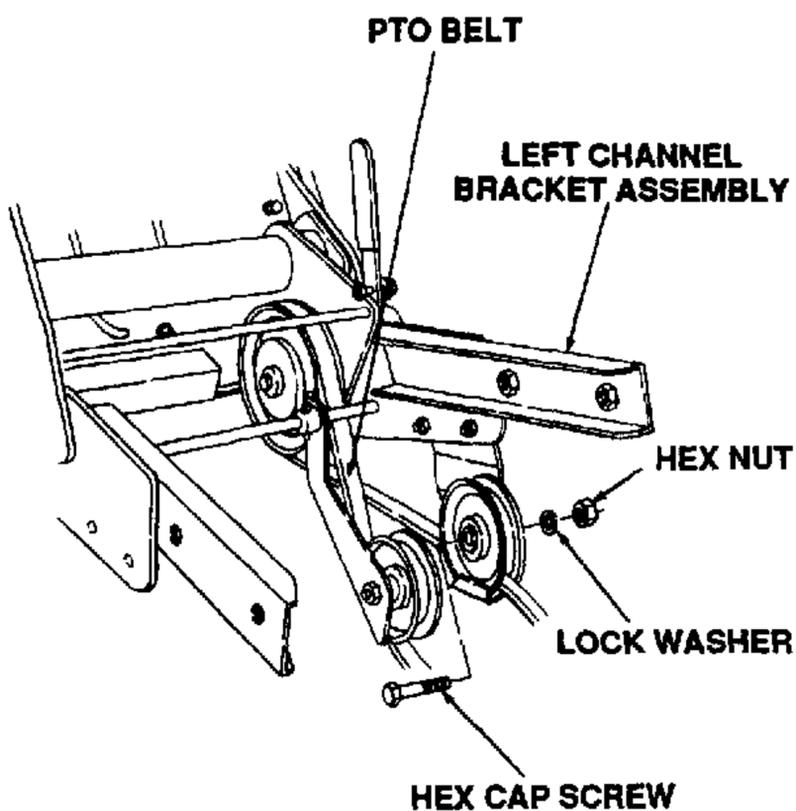
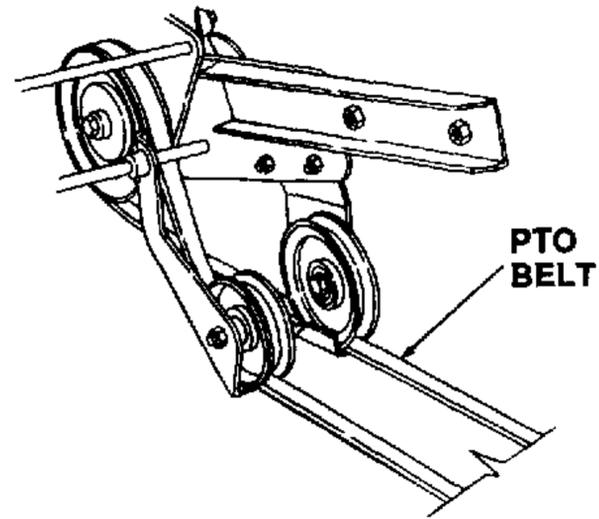

Figure 7-58. Installing V-Idler Pulley.
Figure 7-59. Proper PTO Belt Routing.
9. Place the V-side of the PTO belt in the groove of the idler V-pulley (10), then with the extended hub of the pulley toward the bracket, position the idler pulley (with the belt) on the left channel bracket assembly as shown in Figure 7-58.
10. Ensure that the PTO belt is properly routed over the pulleys as shown in Figure 7-59; then secure the idler pulley (with belt) to the left channel bracket with the hex cap screw (19), lock washer (20) and hex nut (21). See Figure 7-58.
- i. Place the V-side of the PTO belt in the groove of the idler V-pulley (10), then with the extended hub of the pulley toward the bracket, position the idler pulley (with the belt) on the left channel bracket assembly as shown in Figure 7-58.
- j. Ensure that the PTO belt is properly routed over the pulleys as shown in Figure 7-59; then secure the idler pulley (with belt) to the left channel bracket with the hex cap screw (19), lock washer (20) and hex nut (21). See Figure 7-58.